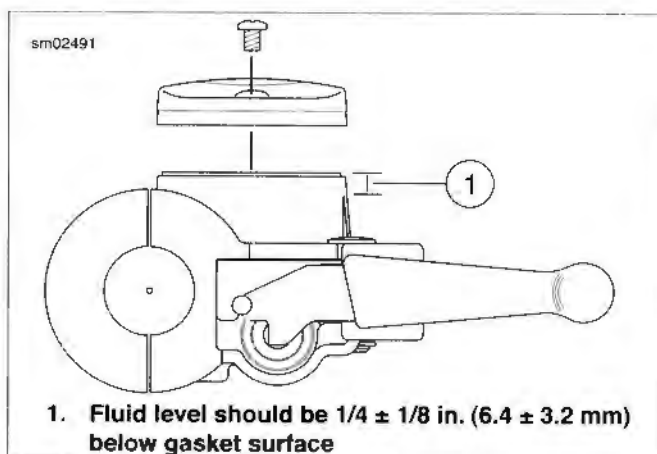

Figure 1-31. Front Brake Master Cylinder Reservoir
2. See Figure 1-31. Check level in front brake master cylinder reservoir. Level should be $1/4 \pm 1/8$ in. (6.35 ± 3.18 mm) below the gasket surface.